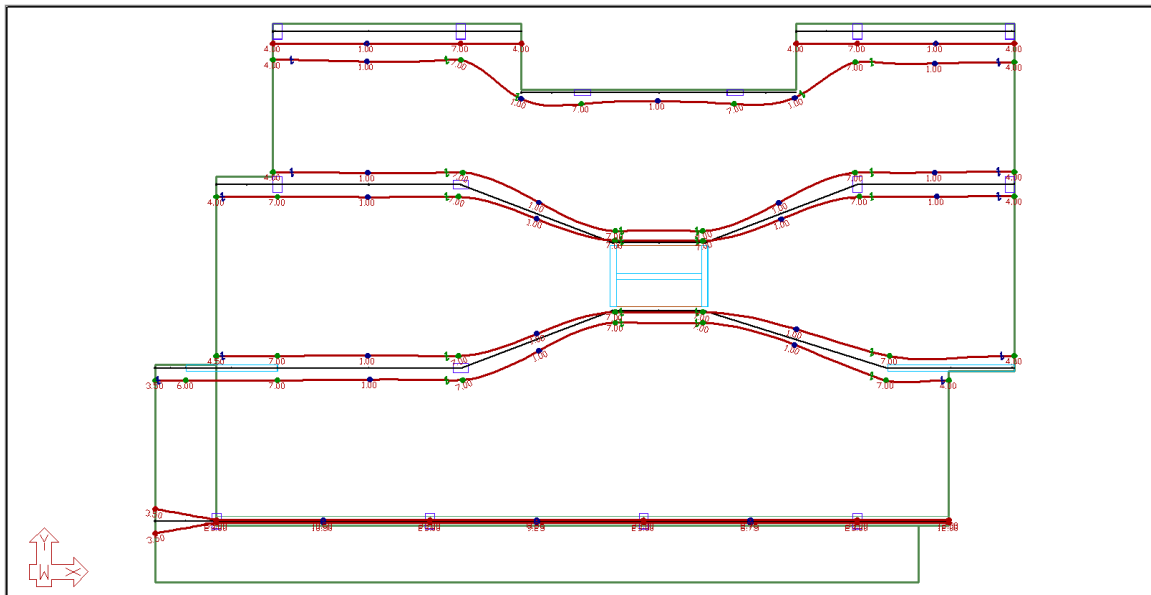

FIGURE 9-69
- Your model should now look like **FIGURE 9-69**.